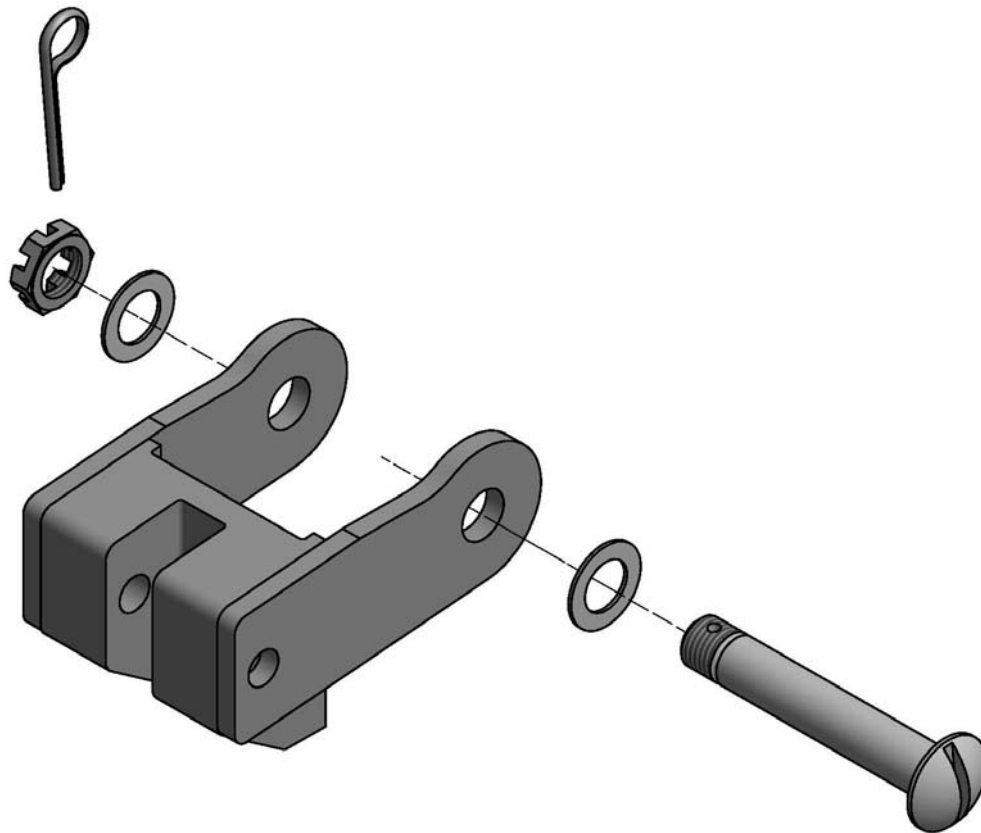

Figure 5: Keeper Hook Hardware Installation
2. Install Items 3, 5, 7, 9, and 11 (on Sheet 1) in the arrangement shown in Figure 5.